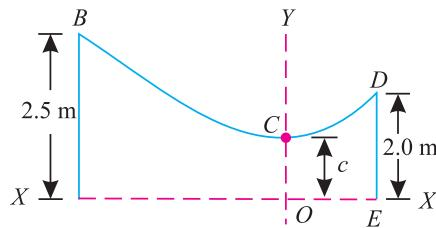

Fig. 15.15.
**Example 15.9.** A heavy string ABCDE 10 m long hangs over two smooth pegs B and D as shown in Fig. 15.15.